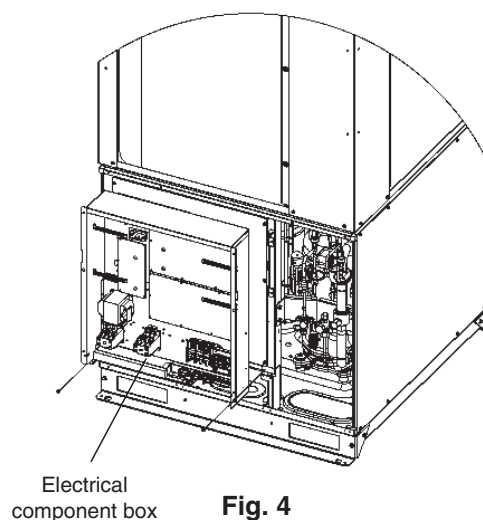

Fig. 4
- (4) Disconnect power lines connected to the secondary terminals of the magnetic contactor for the compressor.
- (5) Remove the electrical component box (remove 2 screws). (Fig. 4)